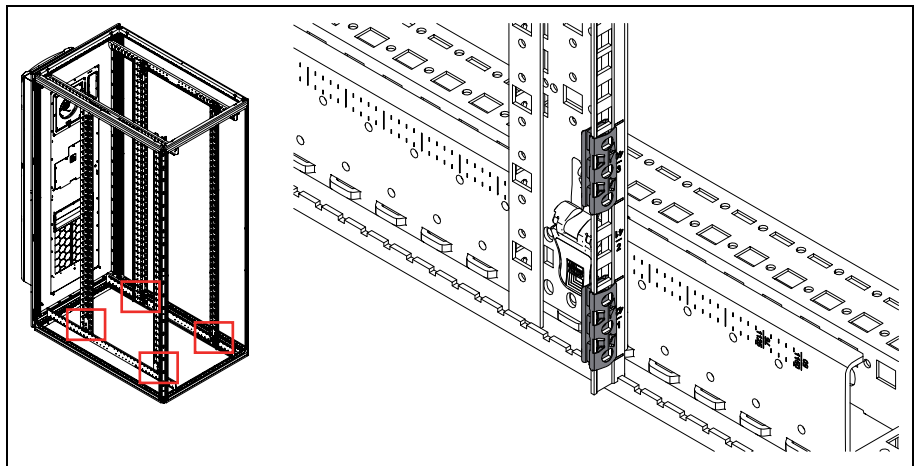

Fig. 4: Install the 482.6 mm (19") fasteners
- Attach the eight 482.6 mm (19") fasteners to the front and rear 482.6 mm (19") mounting angles as shown in fig. 4.